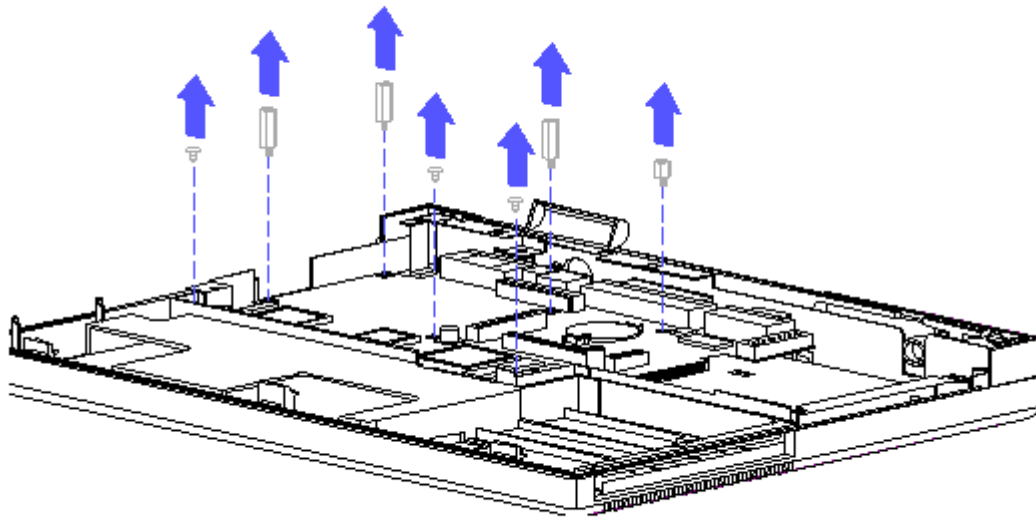

Figure 2-31. Removing Screws and Standoffs
6. Remove the three screws from the processor board with a Torx T-8 screwdriver and remove the four standoffs from the processor board with a hex socket driver (Figure 2-31).